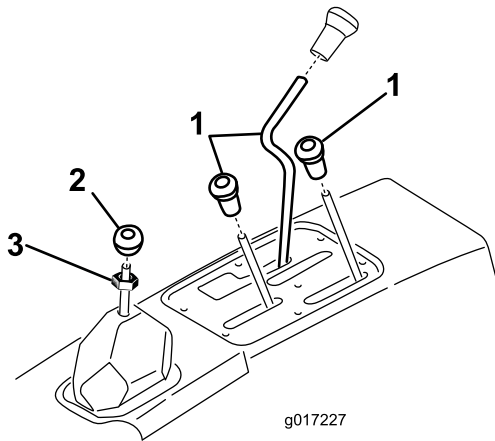

Figure 2
3. Unscrew and remove all knobs from console levers and from the gear shift lever (Figure 2). Also, remove the jam nut from the gear shift lever (Figure 2).